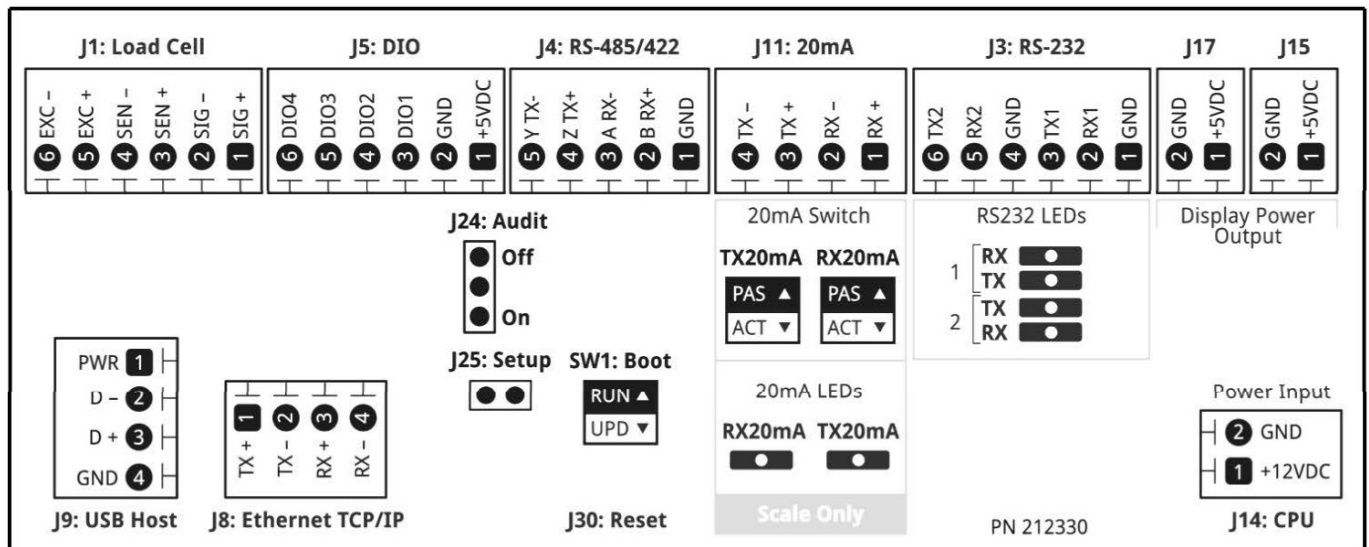

Figure 1. CPU Board Informational Label (PN 212330)
4. Connect cable to one of the following communication ports RS-232 (J3), RS-485/422 (J4), Ethernet (J8) or 20 mA (J11), while adhering to port pin assignment (Figure 1). Coordinate software settings with the installed wiring.